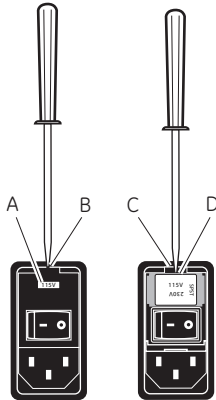

Figure 5-2. Opening the fuse box of the Image eraser.
- 2 Note the voltage (115 V or 230 V) showing in the fuse window (*Fig 5-2 A*).
- 3 Place the end of a small flathead screwdriver in the small groove (*Fig 5-2 B*) above the fuse window and pry to open the fuse box.
- 4 Place the screwdriver in the groove (*Fig 5-2 C*) on the upper edge of the fuse holder (*Fig 5-2 D*) and pry out the fuse holder. When the holder is loose, pull it out of the fuse box.